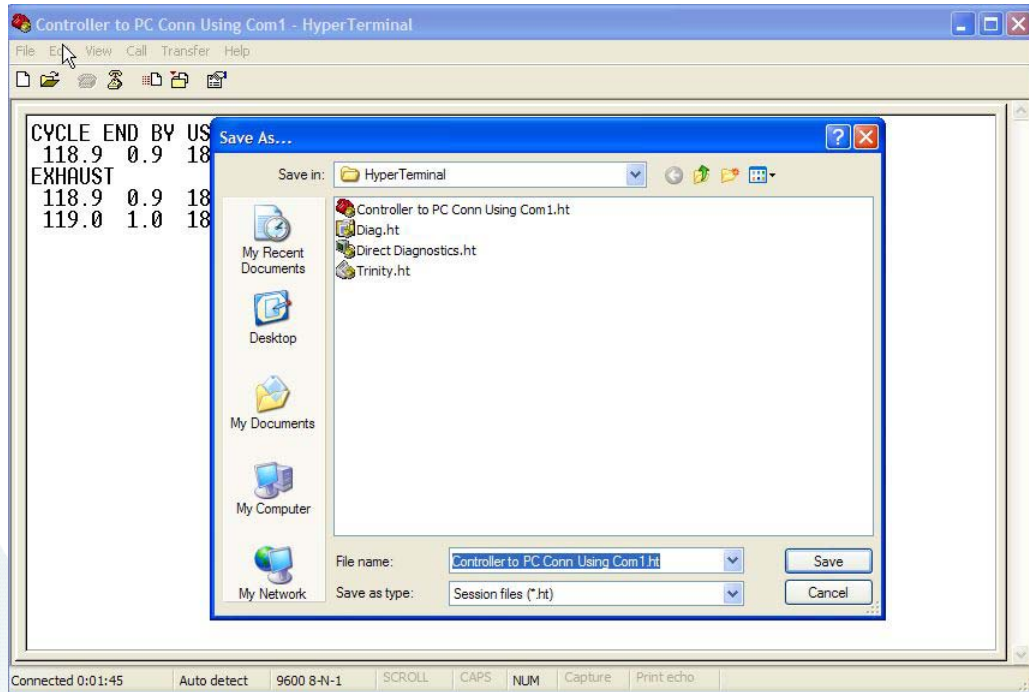

Figure 9 Saving Data to a File
17. Select "Save As" and the "Save As..." dialog box will open (See Figure 9 Saving Data to a File). Enter a file name to be used to save the data and then select the "Save" button. The data is now saved under that file name